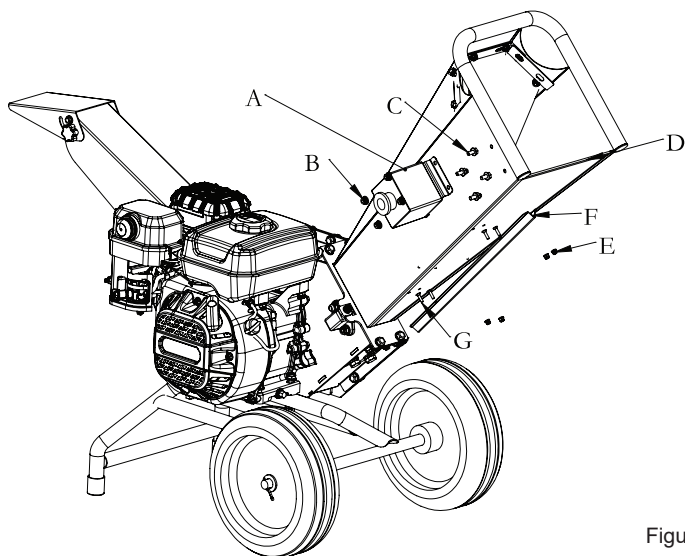

Figure 6
6. Assemble of emergency stop switch (see Figure 6)
- a. Affix the emergency stop switch to feed-in housing using 4pcs M6*12 bolts (C) and M6 nuts.
- b. Connect the line of switch into wiring slot (F) using 4pcs M4*16 bolts (G) and M4 nuts (E).